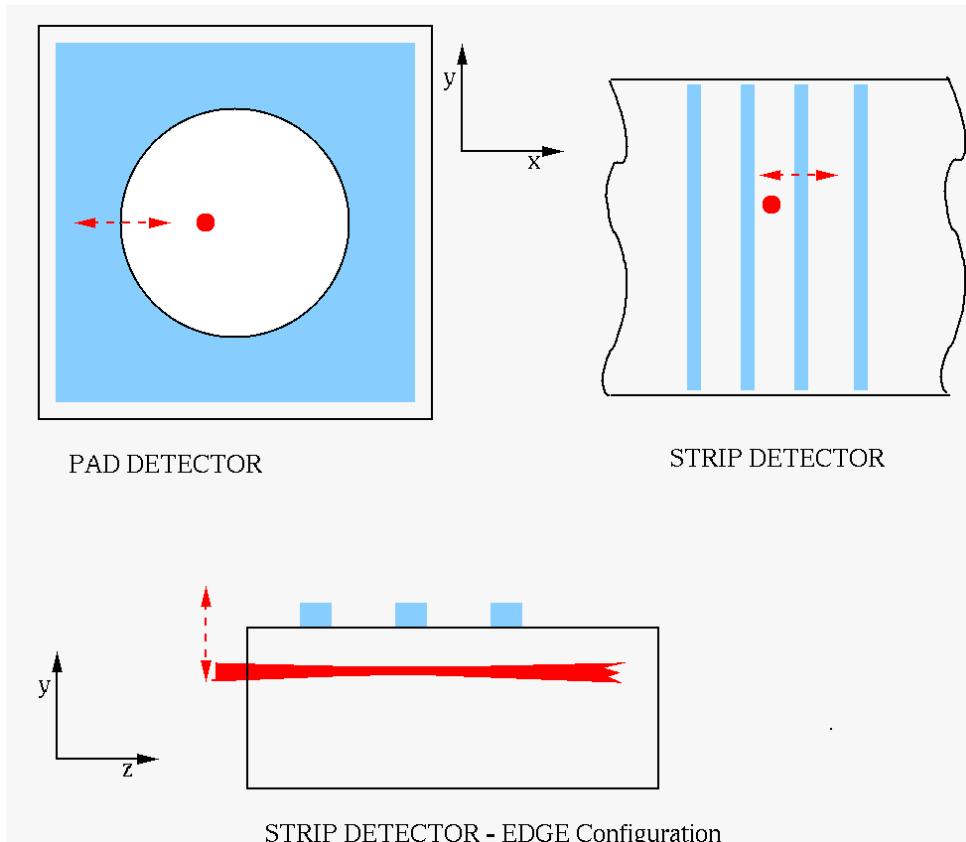

Figure 1: Typical cases of focus finding. Red dot/beam denotes the laser position, the dashed line the scanning axis with a typical range denoted by arrows.
The focus finding is essential before most of the Scanning-TCT measurements can be taken. In order to find the focus there should be a border between metalized and non-metalized (silicon) part on the detector surface and of course the silicon region should be sensitive. In most cases you will encounter one of the situations found in Fig. 1, pad, strip and strip detector in edge-tct configuration.
3. Select the search range in x or y to approximately cover the region denoted by dashed line in Fig. 1
6. Once you approximately found the focus set the scanning range in x (or y) as indicated by the dashed line in the Fig. 1 and also in z (range of 1-2 mm in steps of 50 mm). Leave the detector biased fixed (no scanning of bias voltage).